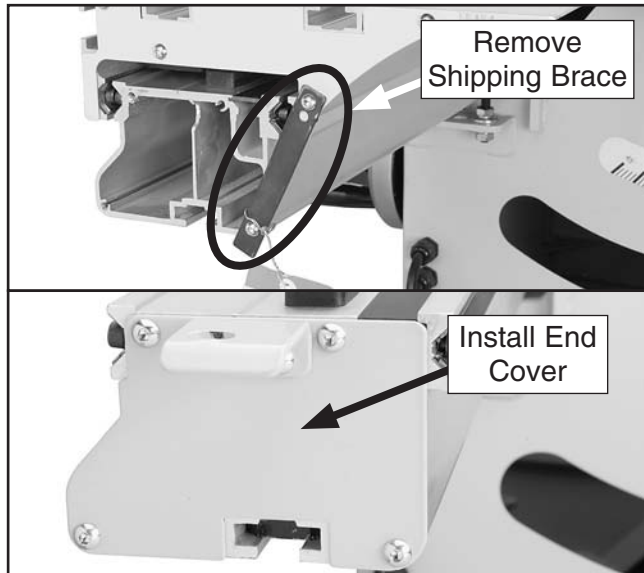

Figure 17. Sliding table shipping brace and end cover installed.
- Remove the shipping brace from the sliding table, then install the sliding table end cover over the fixed part of the sliding table end, as shown in **Figure 17**, using the premounted hardware. (Save the brace for future transport needs.)